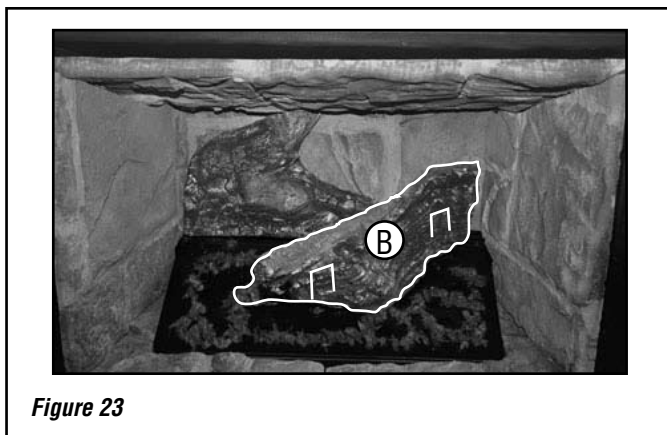

Figure 23
- Place center log (B) on supports towards bottom left and top right of log (B). See **Figure 23**.